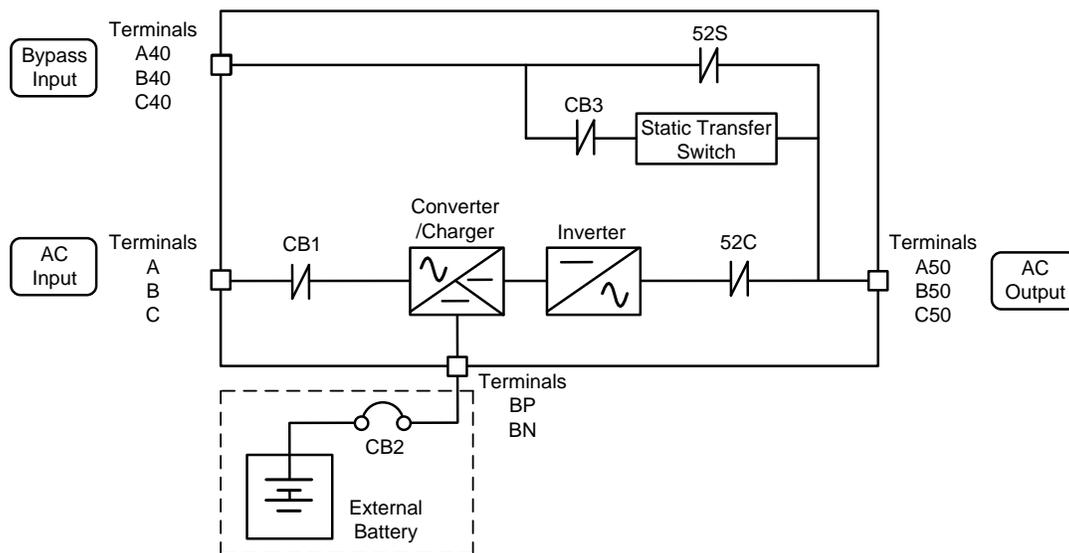
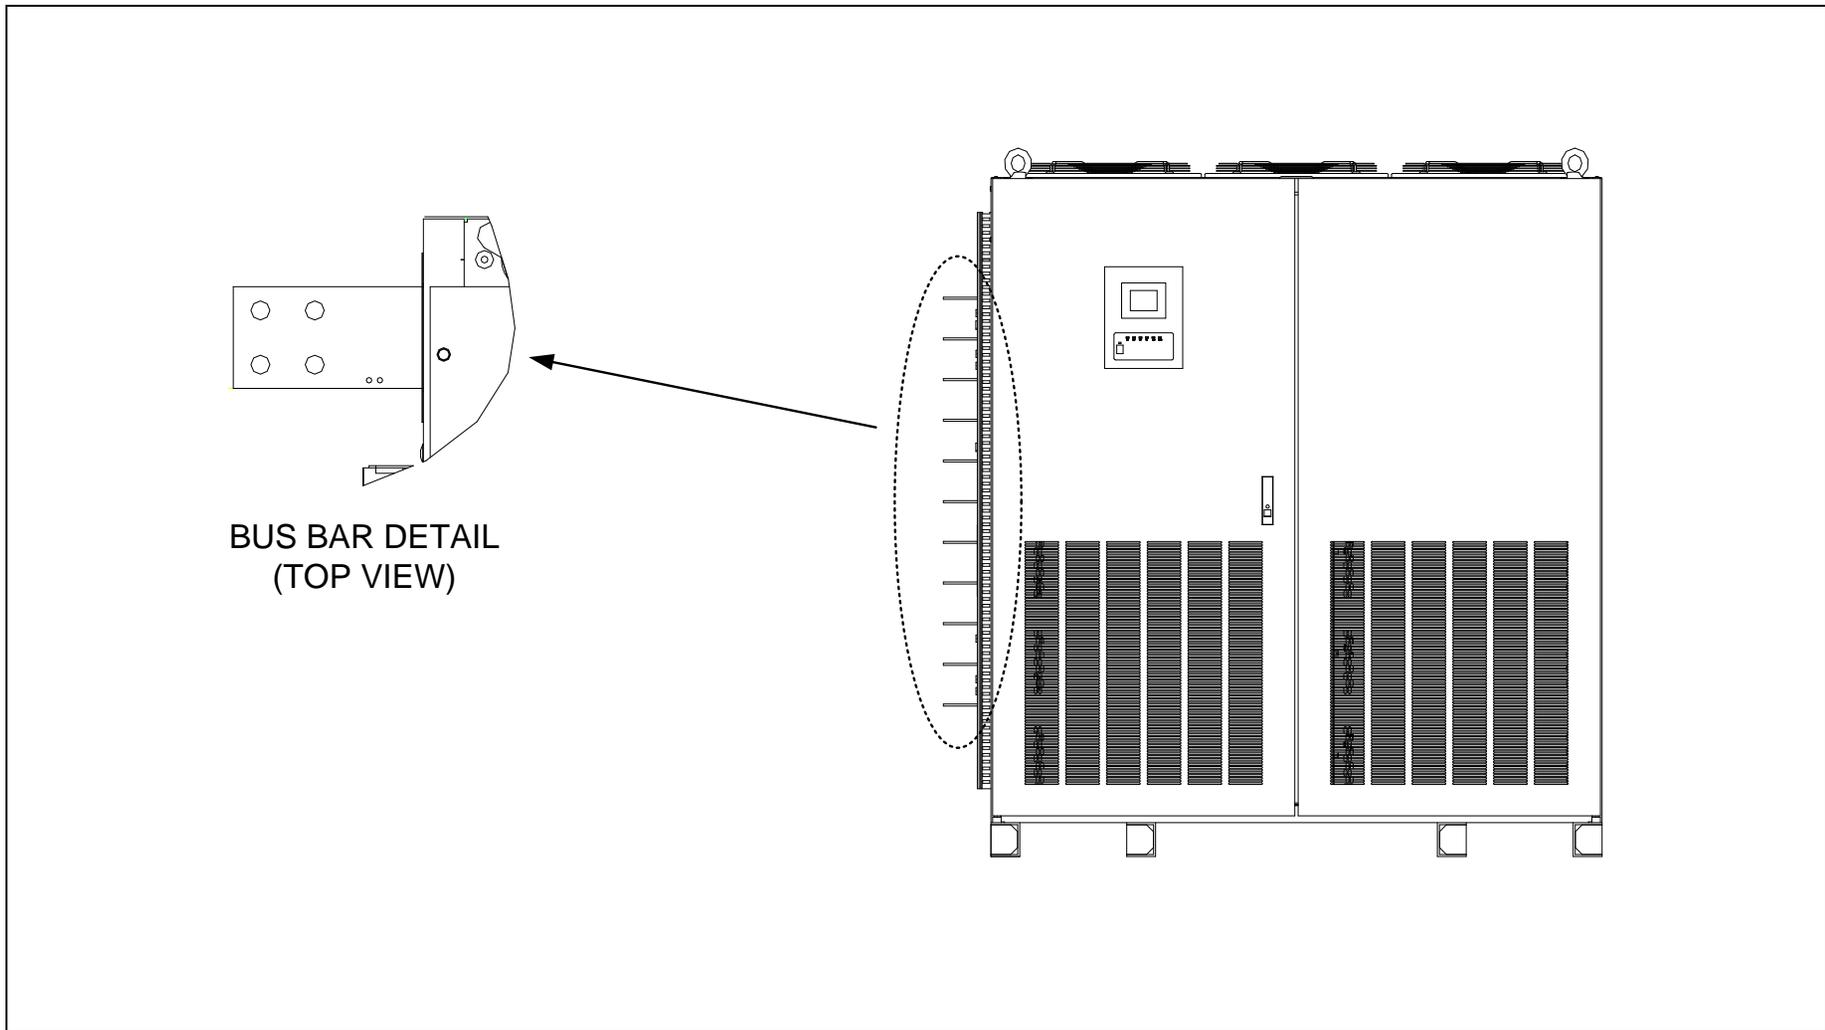
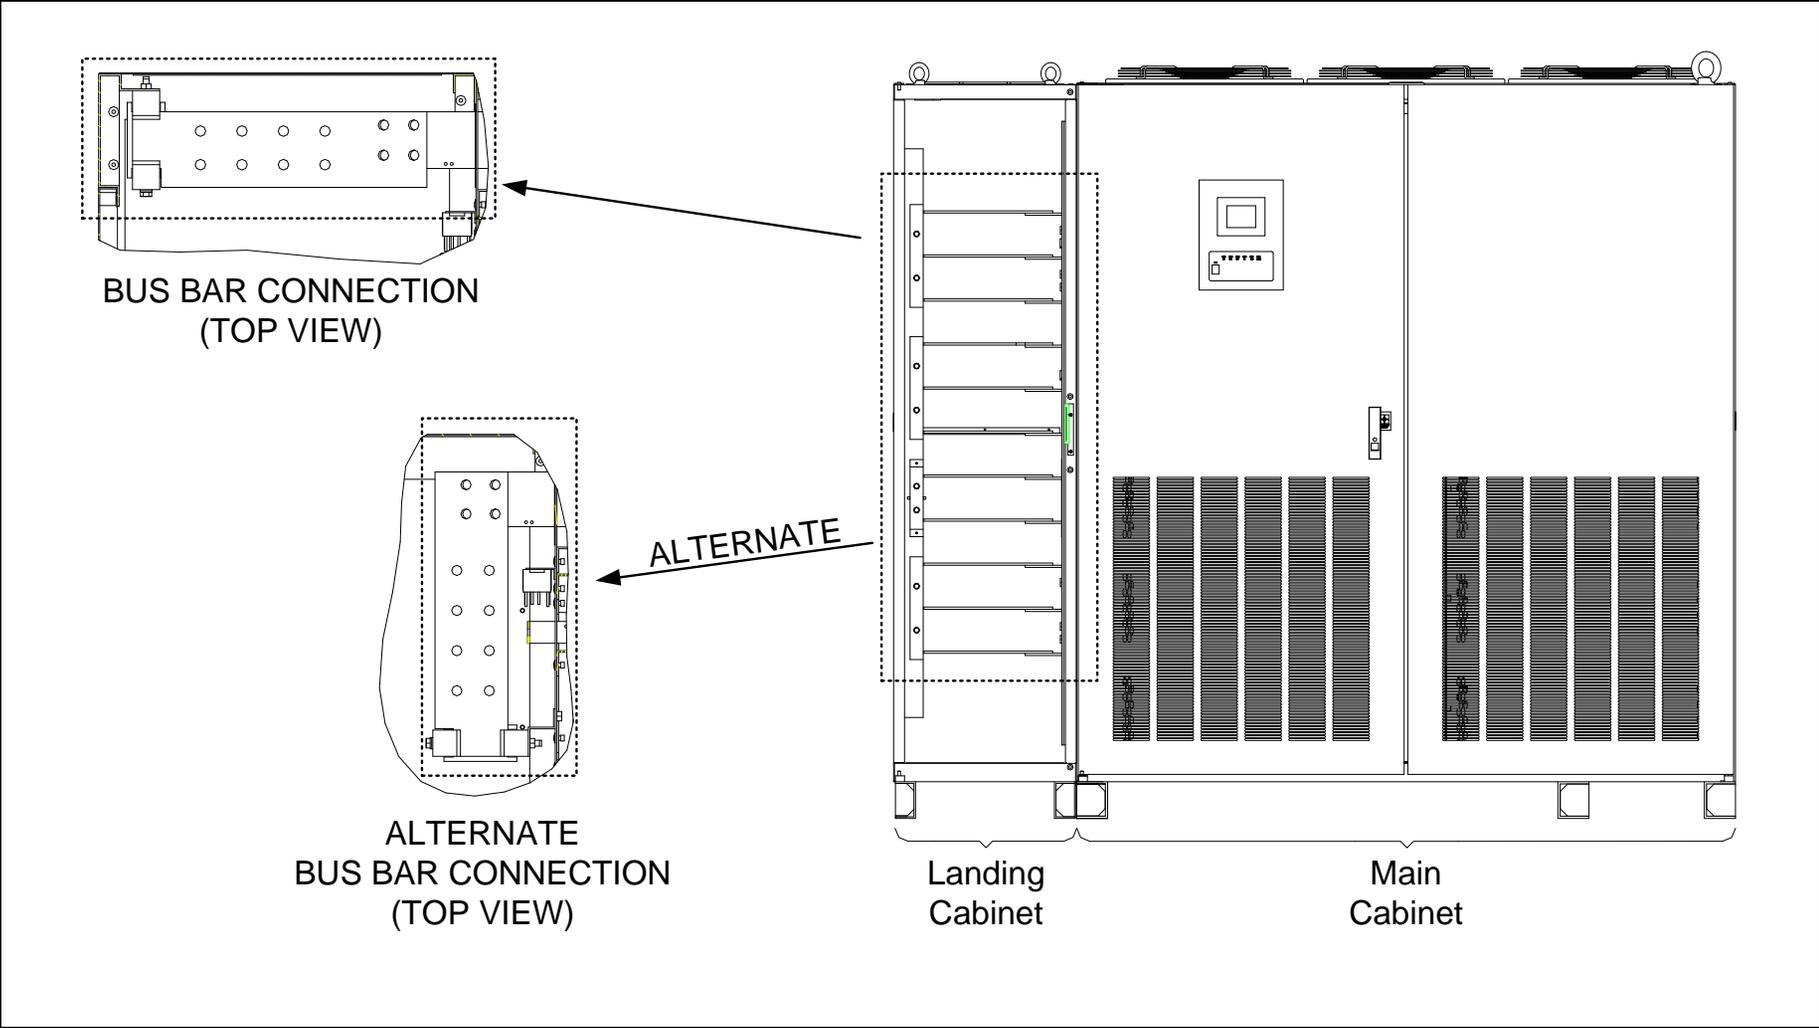

Figure 5-1 UPS Terminal Designation
Figure 5-7 Detail of the main cabinet bus bars (650kVA & 750kVA)
Figure 5-10 Bus bar connection between main cabinet and landing cabinet (650kVA & 750kVA)
- g.) Confirm the capacity of the UPS being installed. Identify the input/output power Terminal blocks accordingly as shown in the Figure 5-1 thru Figure 5-10.
- (1) Control wire Inter-connect
- i.) Connect the grounding conductor from the input service entrance to the UPS Ground Bar (E).
- j.) Two (2) sources feeding the UPS:
- (1) Connect the AC input power cables from the input service entrance to the AC input power terminals, identified as A, B, C in Figure 5-1 thru Figure 5-7. Input cables must be sized for an ampere rating larger than the maximum input drawn by the converter. (Refer to equipment nameplate for current ratings.) Confirm that an external bypass input circuit breaker (MCCB) is installed (refer to WARNING 4, page 5). Connect the bypass input power cables from the input service entrance to the bypass input power terminals, identified as A40, B40 and C40 in Figure 5-1 thru Figure 5-7. Bypass input cables must be sized for an ampere rating larger than the maximum output current capacity of the UPS. Refer to Table 5-4 for recommended cable sizes.
- k.) One (1) source feeding the UPS:
- (1) Confirm that an external input circuit breaker sized to protect both the AC input and the bypass line is installed. (Refer to equipment nameplate for current ratings.) Connect the bypass input power cables from the input service entrance to the bypass input power terminals, identified as A40, B40 and C40 in Figure 5-1 thru Figure 5-7. Input cables must be sized for an ampere rating larger than the maximum current capacity of the UPS. Refer to Table 5-4 for recommended cable sizes.
- (2) Using adequately sized conductors and referring to the appropriate figure identified in Figure 5-1 thru Figure 5-7, connect jumper bypass terminals A40, B40, C40 to AC input power terminals A, B, C as identified in Figure 5-1 thru Figure 5-7.
- (3) Connect the external signal terminal block as desired. Refer to Table 4–1 for functional description. 14 AWG (2mm²), or less, shielded conductor is recommended.
- (1) Confirm the number of units to be connected in parallel. Identify the input/output power terminal blocks and control wire connections for parallel operation systems as shown in the appropriate Figure 5-1 thru Figure 5-7.
- (2) Connect the external control wire and power wire.
From UPS AC Output Terminals to Toshiba Tie Cabinet (TTC) (Refer to Figure 5-1 thru Figure 5-7)